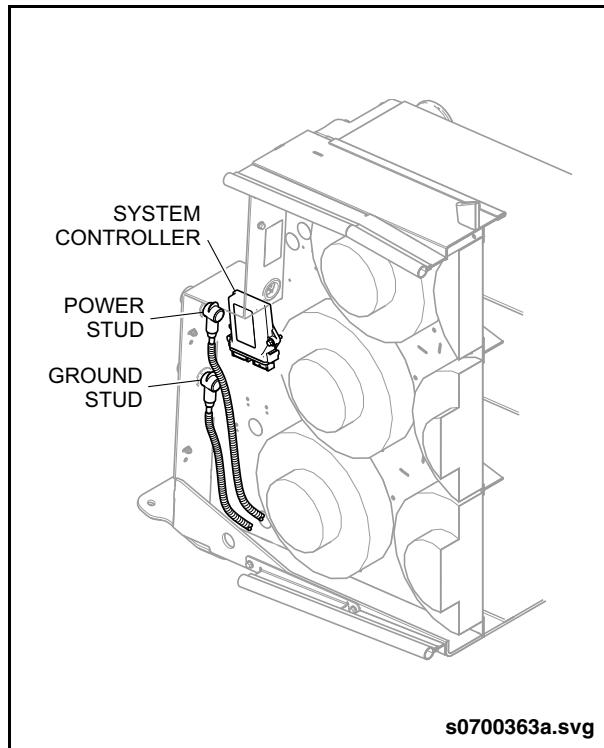

Fig. PM-18: Radiator Inspection
1. Locate the power and ground studs on the radiator and pull boots back from pass-through stud. See “Fig. PM-18: Radiator Inspection” on page 43.